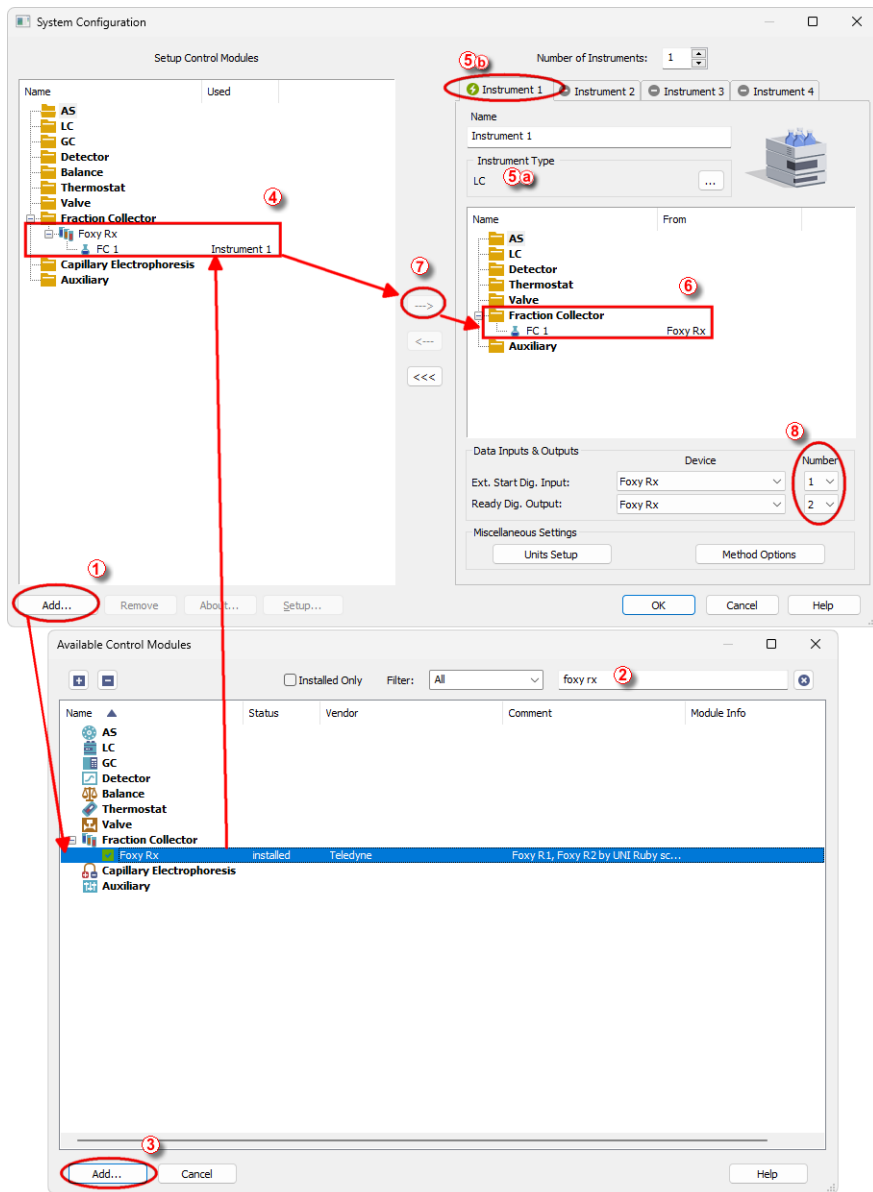

Fig. 3: How to Add Teledyne Foxy R1 / R2 Control Module
- Press the **Add** button (① on Fig. 3 on pg. 4.) to invoke the *Available Control Modules* dialog.
- You can specify the search filter (②) to simplify the finding of the driver.
- Select the correct item and press the **Add** (③ on Fig. 3 on pg. 4.) button. Each device with already created UNI profile should have its own item named accordingly in the *Available Control Modules* dialog.